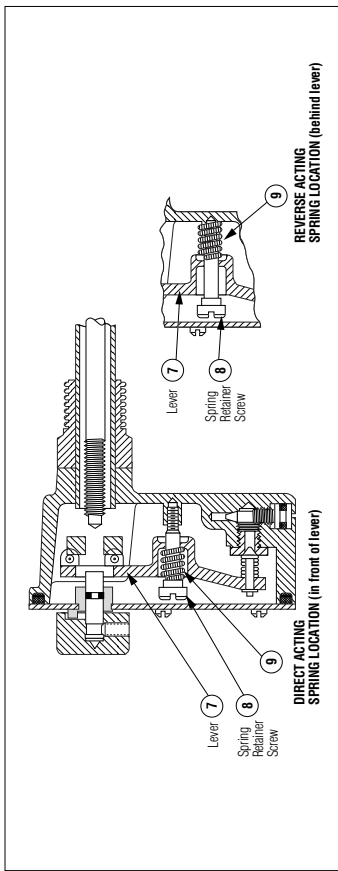

Figure 6.
(See Figures 6 and 7)
3. Install screws (31) and gaskets (32) on water-operated controller.
4. Install parts (8) and (9). (Note relationship for direct and reverse acting. See Figure 6.)
5. Back out adjustment screw (5) until collar (16) touches the pivots on the lever (7).
6. Install cover plate (2).
7. Install adjustment knob with set screw (3). The knob indicator (white line on side of knob) should be opposite the dial marking corresponding to the room temperature. Tighten the knob set screw very firmly.